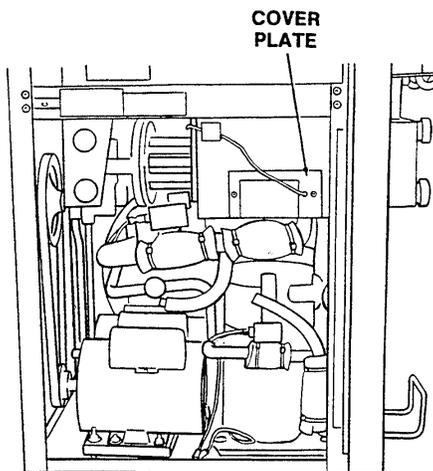

Figure 57. Cover Plate Removal
- Loosen the two (2) Phillips head screws and remove the decorative header panel.
- Remove the two (2) screws from the cover plate and pry off (Figure 57).